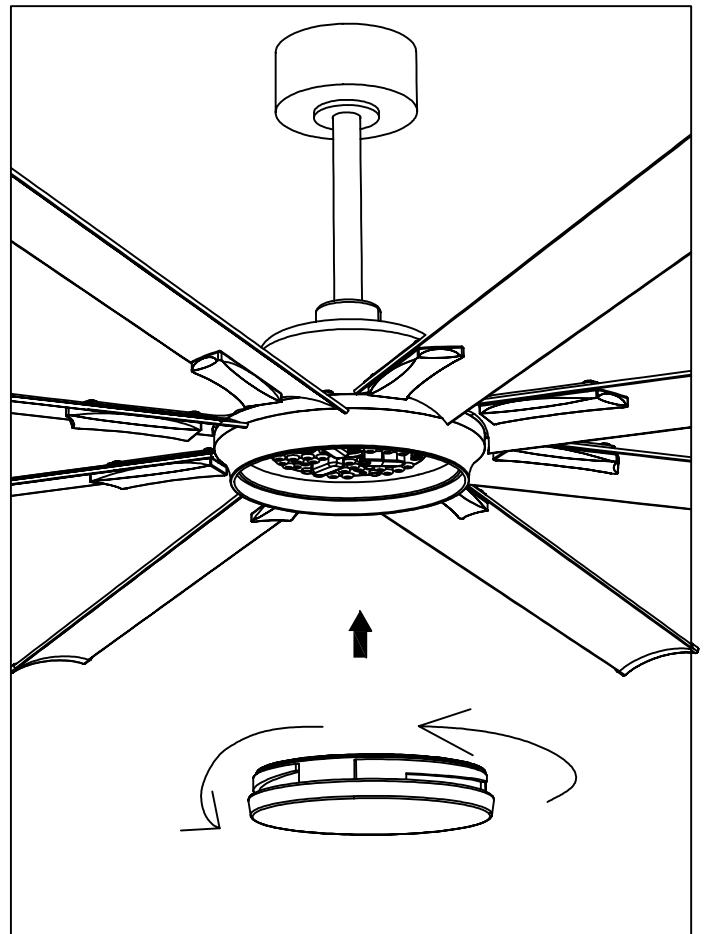

Figure 6.2
- Finally install the lampshade inside the lampshade chassis by rotating clockwise to complete the installation.(Figure 6.2)